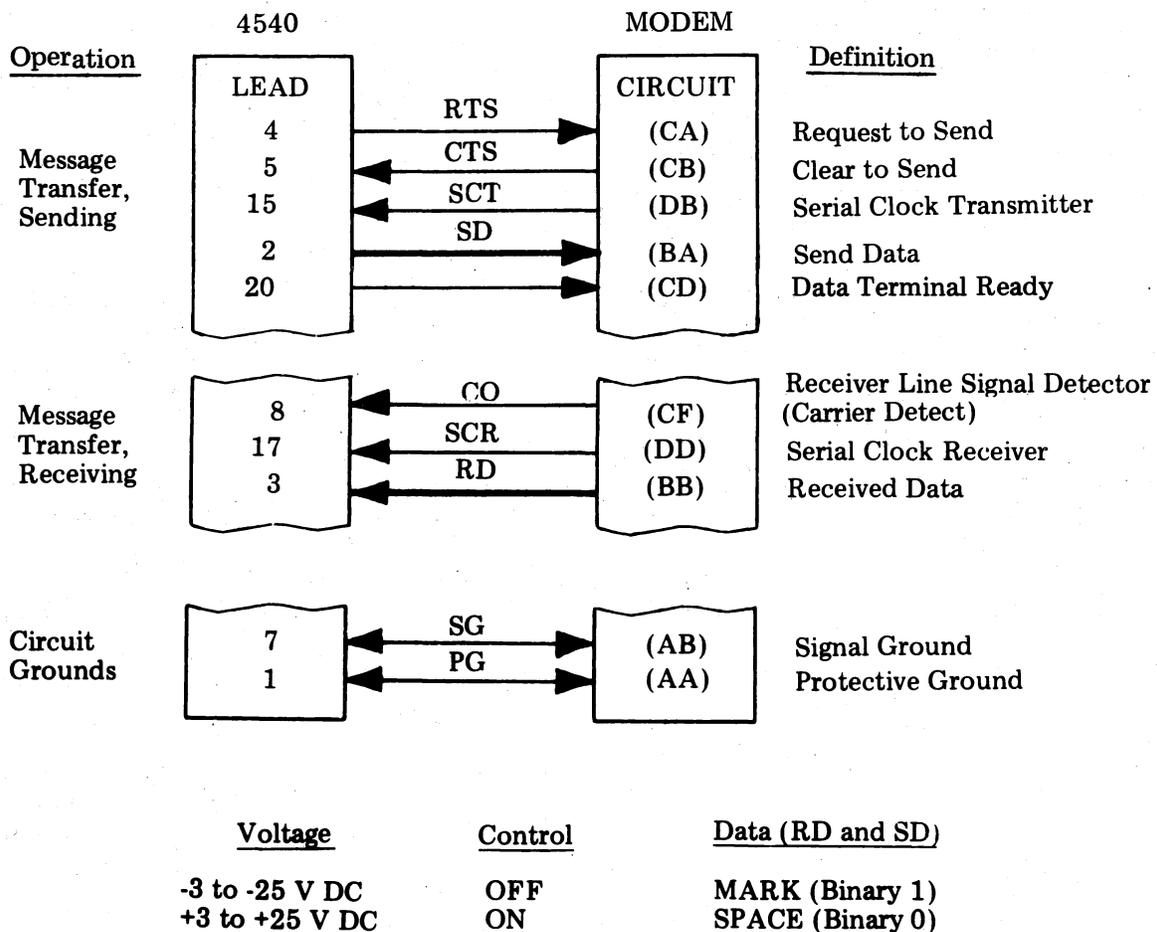

Fig. 15—EIA Leads
5.10 The 4540 interface to the station modem meets EIA standard RS-232C. Leads used in 4540 are indicated. The DSR lead is physically available, but is not used by the 4540. EIA leads are shown in Fig. 15.